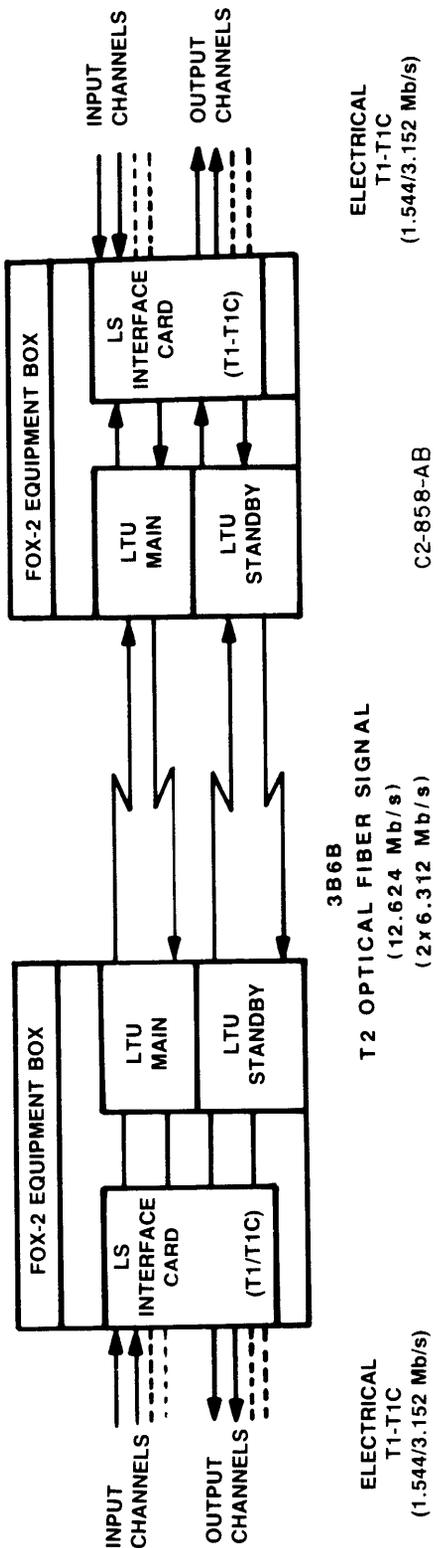

Figure 2. FOX-2 to FOX-2 Fiber Optic System
3.06 Figure 2 shows a FOX-2 to FOX-2 configuration. This provides a point-to-point optical DS-2 system which delivers up to 4 T1 signals to a customer site.